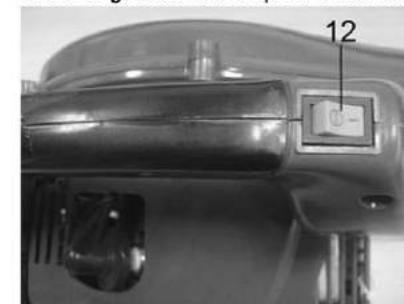

Fig.10
Starting (Fig 10 - 15)
1. Move the switch to "I" position. (Fig.10)